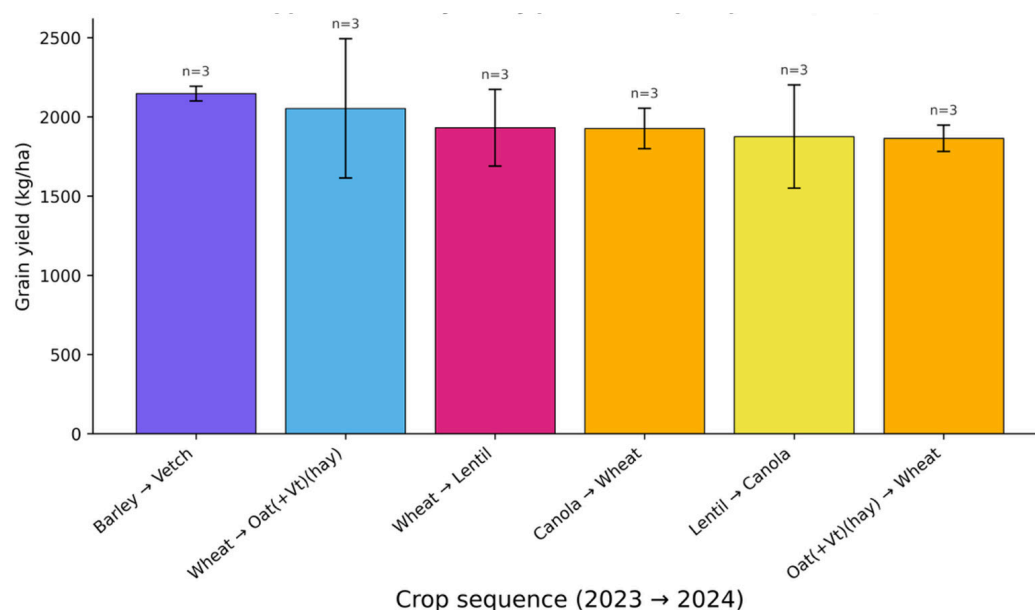

Figure 2. 2025 wheat yield by 2-year crop sequence (2023 > 2024).
- A trend toward higher residual soil water was apparent following vetch entering 2024 (Fig 1A); however, vetch establishment was poor in 2023 due to low seed viability, meaning biomass was reduced and confidence in the size of this water benefit is limited. The terminal drought in 2024 depleted any water reserves. By the start of 2025, soil water had converged to similarly low levels across all previous crops (Fig 1B), meaning any vetch water legacy did not persist to influence 2025 wheat yields (Fig 2).
- Wheat yields in 2025 showed no significant difference across preceding two-year crop sequences (Fig 2), though yields were slightly higher following barley-vetch, consistent with some residual soil water and N benefit from vetch.